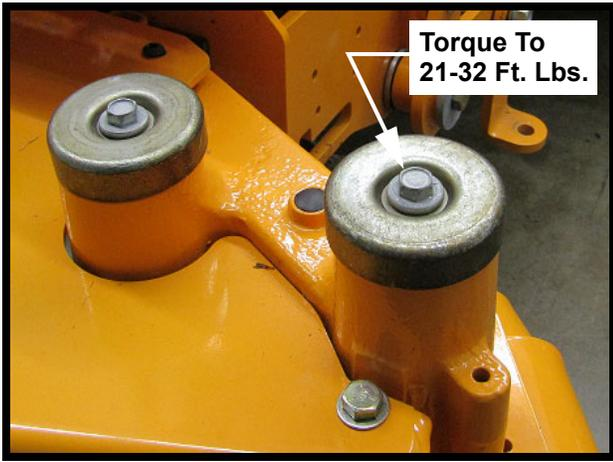

FIGURE 15
28. Install the wheel deflector bracket and secure with the two (2) 5/16-18 hex flange center lock nuts removed in Step 9.
29. Torque the two (2) 5/16-18 Nylon Lock Flange Nuts to 13-20 Ft. Lbs.
30. Install the axle cap, flat washer and secure with the 3/8-16 shoulder screw removed and retained in Step 7. See Figure 15. Torque the 3/8-16 shoulder screw to 21-32 Ft. Lbs.